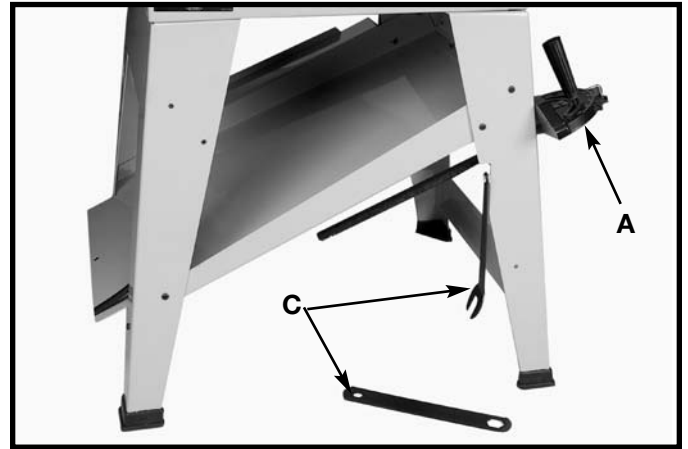

Fig. 93
1. When not in use, the miter gage (A) Fig. 93 can be stored through the hole located at the front side of the stand.
2. Arbor wrenches (C) Fig. 93, can be stored on one of the two notched legs.